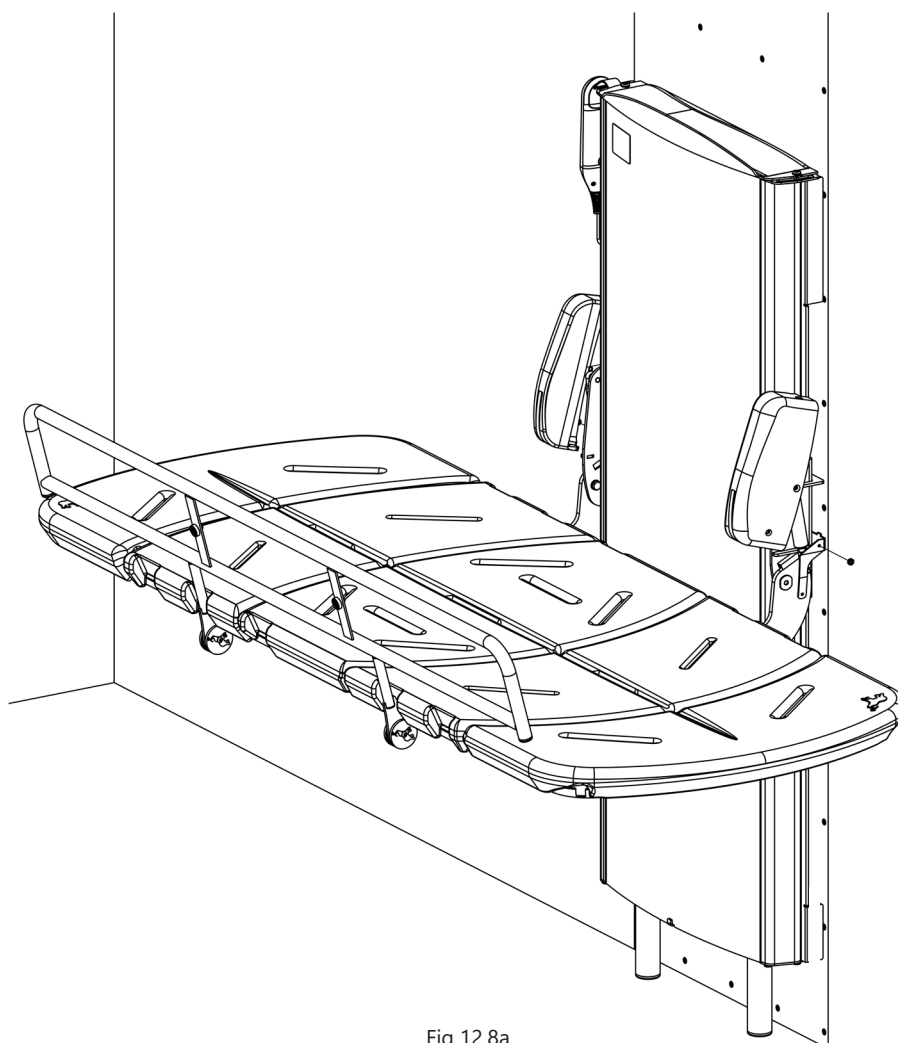

Fig 12.8a
- Locate the gas spring covers and rotate into position, as shown in Fig 12.8a.